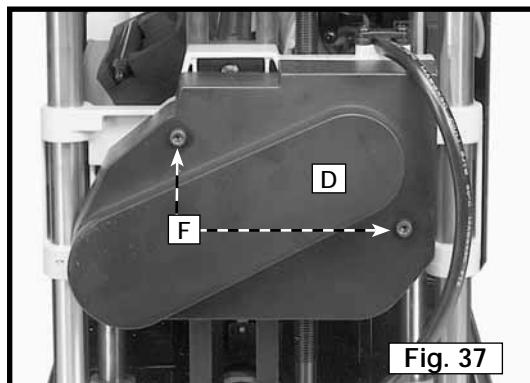

Fig. 37
5. Remove the two screws (F) Fig. 37 and remove the gear housing cover (D) Fig. 37.